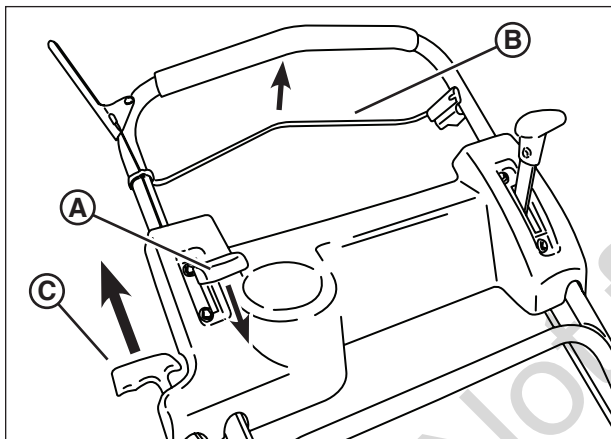

Figure 3: Starting the mower
2. Move the engine speed control **(A, Figure 3)** past the fast ('Rabbit') detent to the 'Choke' position.